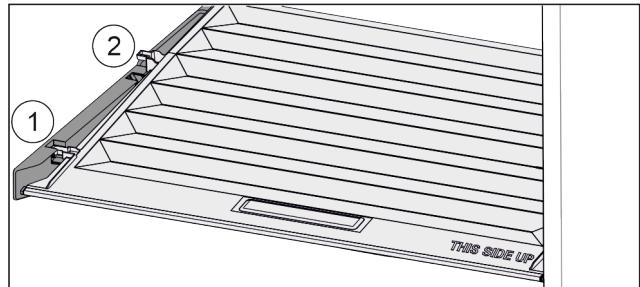

Fig. 138
- ▶ Pull the lid up at the front in the retaining parts to the opening Fig. 138 (1).
- ▶ Lift from the back and pull it up and out Fig. 138 (2).